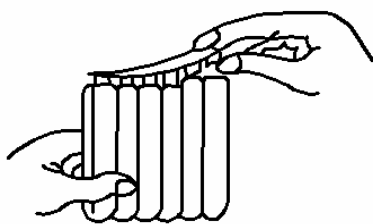

fig.1
1. Remove filler cap strip (where fitted) (Fig.1) from bottle, to expose silver sealed foils, do not remove the silver foils.